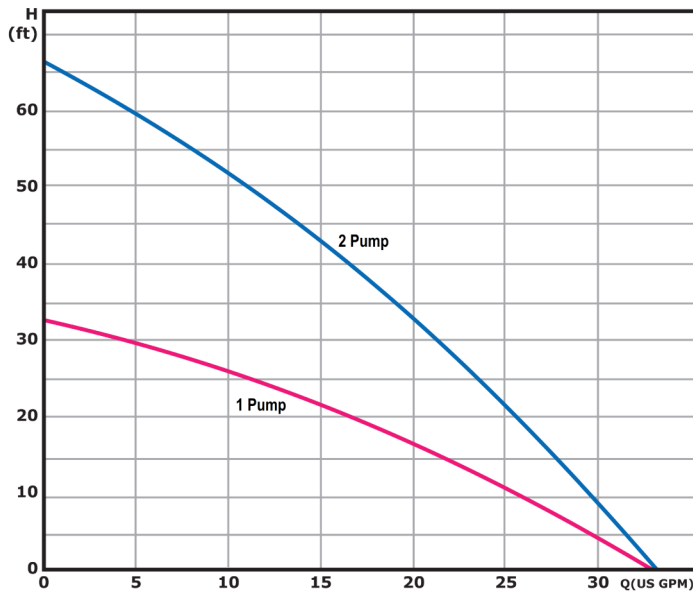

Fig. 1. Low Head Pump Center Flow Chart
The QT®-EA has two separate pumping circuits designed to work with two heat pumps or a large dual stage heat pump with two circuits. Each pumping circuit shall be checked with the performance curves (**See Fig. 1 & 2**). To ensure adequate flow, the selection must be based on your specific system design. Total system flow shall be no greater than 28 GPM.
1. By using the flow meter tool, monitor the flow (GPM) being pumped through the entire system. If the flow is not correct, check that the proper flow center has been selected for the application using pump curves (**See Fig. 1, 2**). If the pump curve indicates the proper flow center was installed and the GPM is less than the system requires, an obstruction in the system is restricting flow.